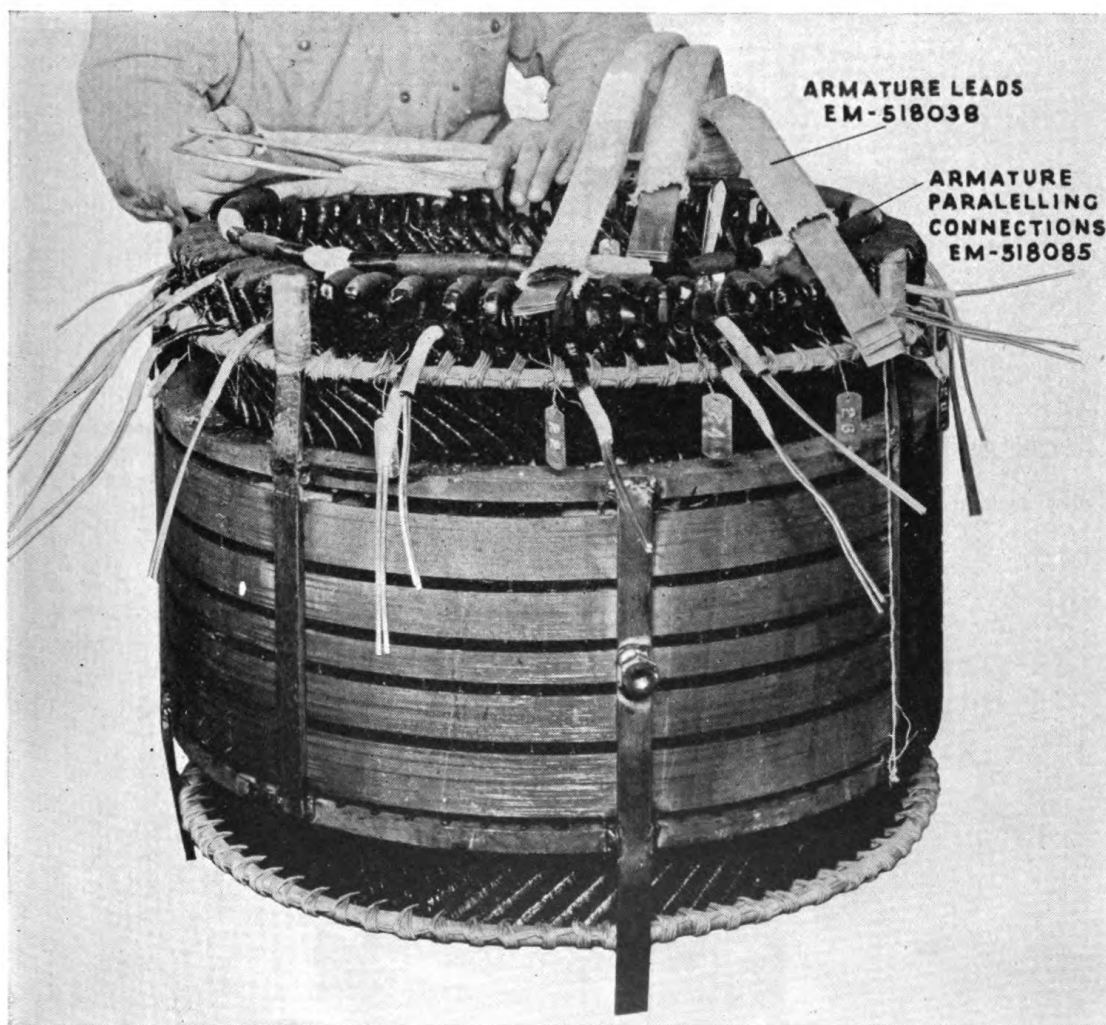

FIG. 14—Generator Armature Connection Procedure
- Figure 14 Generator armature connection procedure.